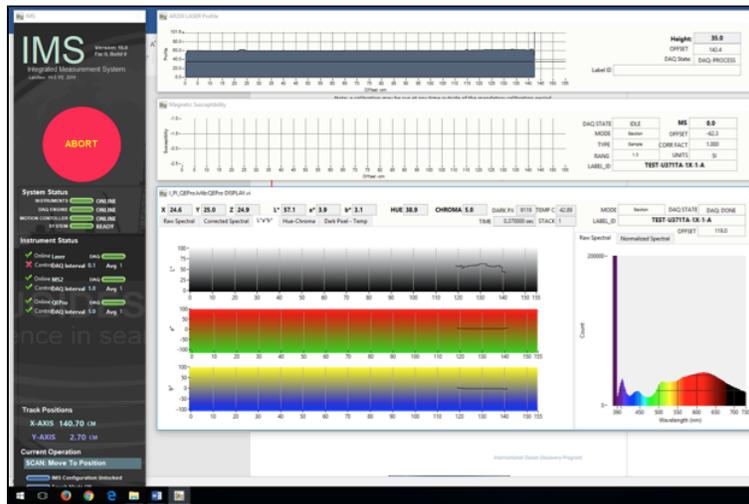

Figure 6. Data Acquisition Screen
12. The measurement sequence begins. For efficiency, measurements begin at the bottom of the section and move upcore. Results are displayed during acquisition on instrument graphs on screen as shown in Figure 6, below.